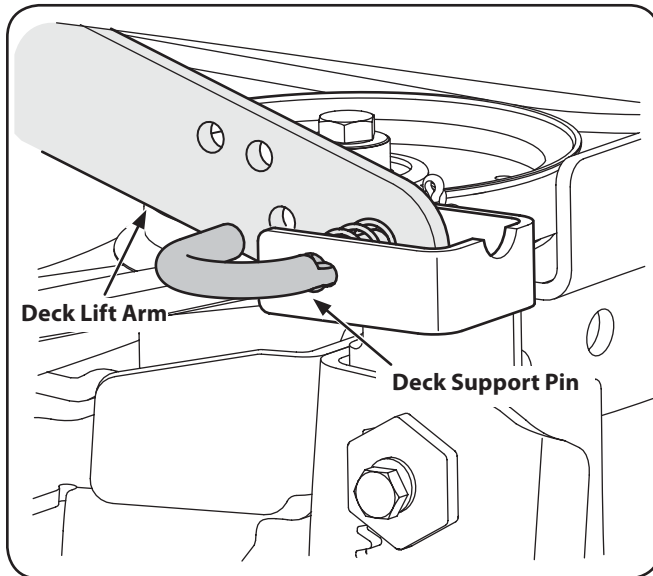

Figure 7-4
- Pull the deck support pin outward to release the deck from the deck lift arm. See Fig. 7-4.